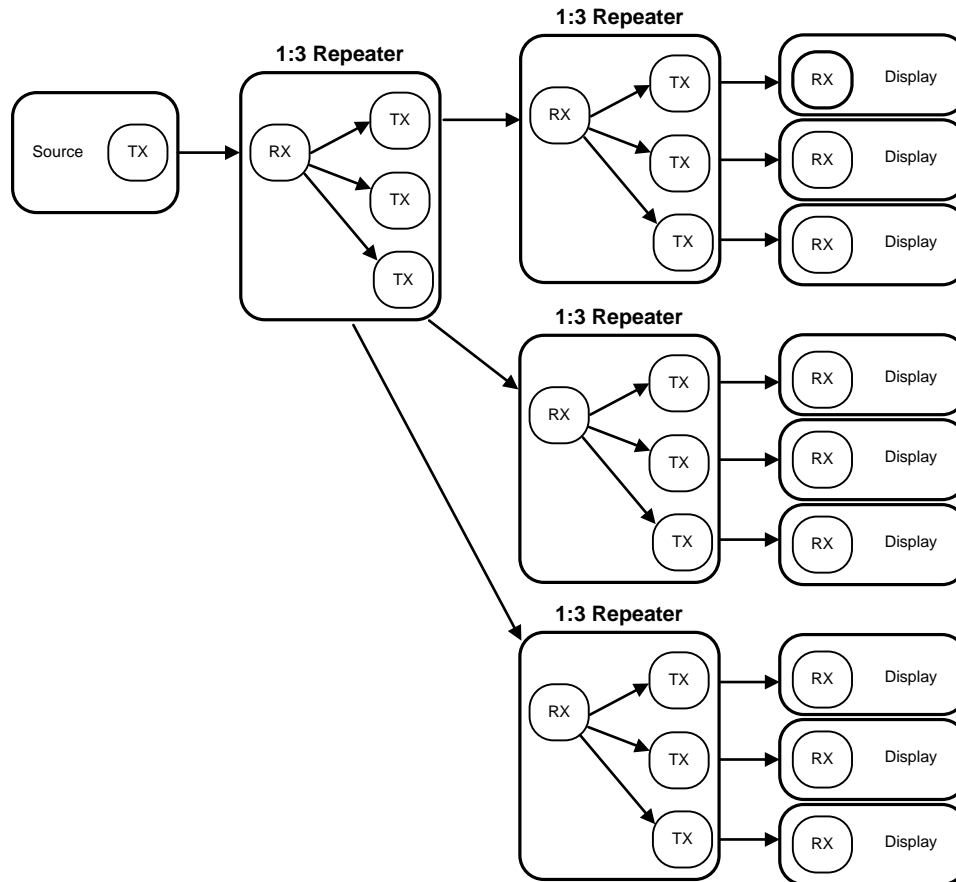

Figure 25. HDCP Maximum Repeater Application
In the HDCP repeater application, this document refers to the DS90UH947-Q1 as the HDCP Transmitter (TX), and refers to the DS90UH948-Q1 as the HDCP Receiver (RX). Figure 25 shows the maximum configuration supported for HDCP Repeater implementations. Two levels of HDCP Repeaters are supported with a maximum of three HDCP Transmitters per HDCP Receiver.